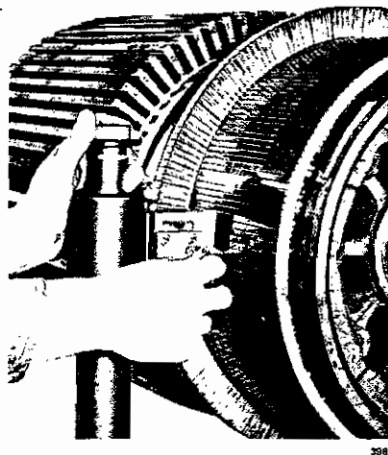

Fig. 23 - Alignment of Commutator
9. Move the alignment fixture over to the commutator and check the setting on the alignment fixture to the centreline of the mica between the commutator bars as shown in Fig. 23. The centreline of the mica between the core and commutator at six equally spaced locations around the assembly and record the readings.